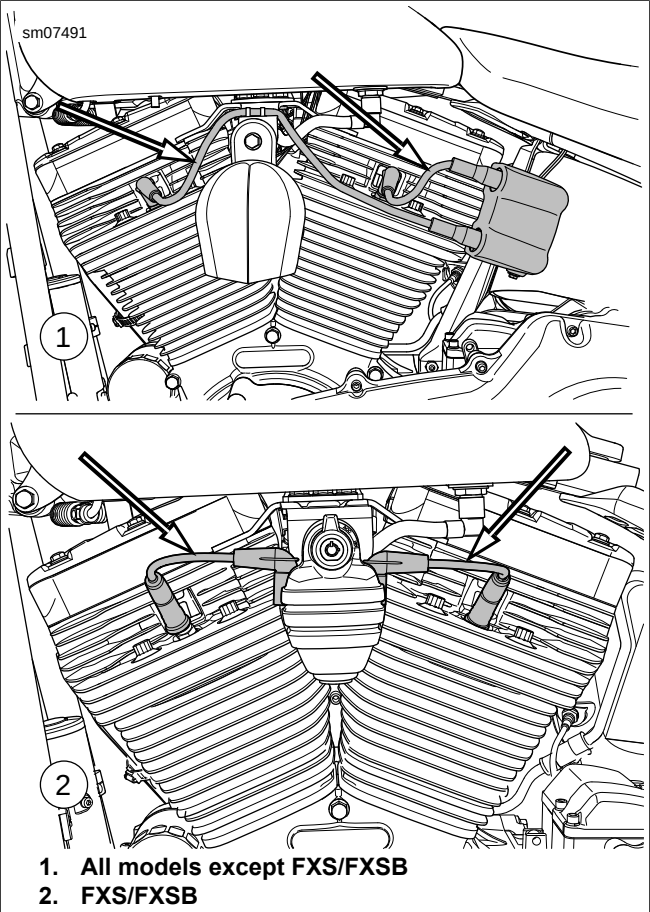

Figure 1-39. Spark Plug Cable Routing
3. See Figure 1-39. Connect spark plug cables. Verify cables are connected to coil, spark plugs and anchor clips or harness caddies.